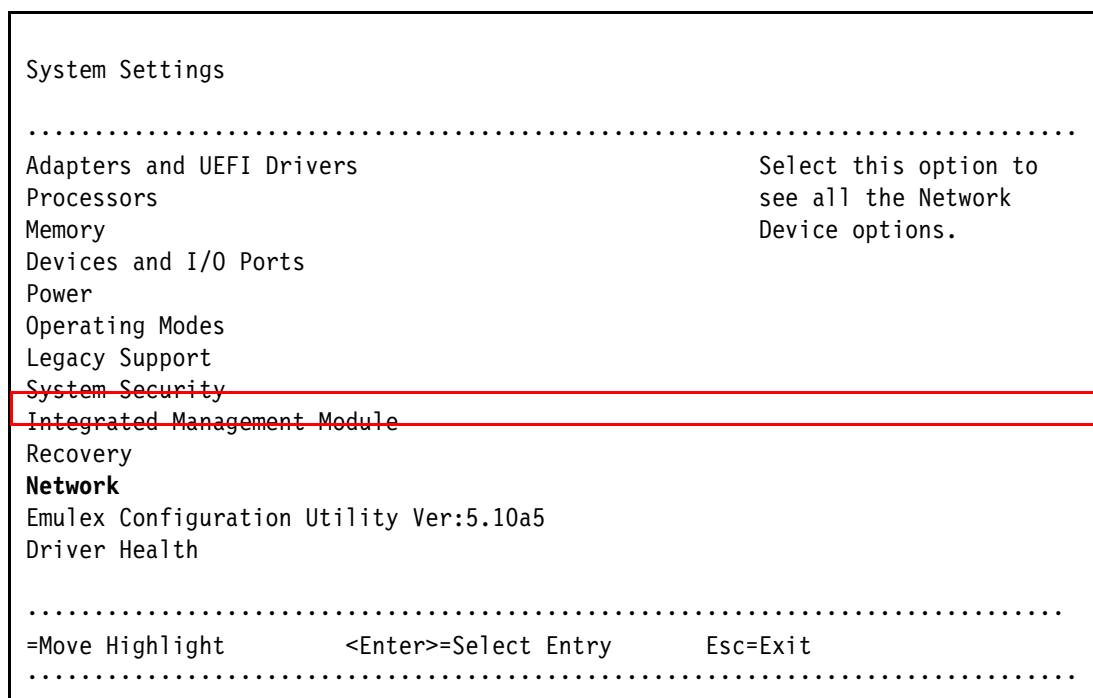

Figure 7-5 System Settings Options
- Highlight **Network** and press Enter to go to Network configuration options as shown in Figure 7-5.